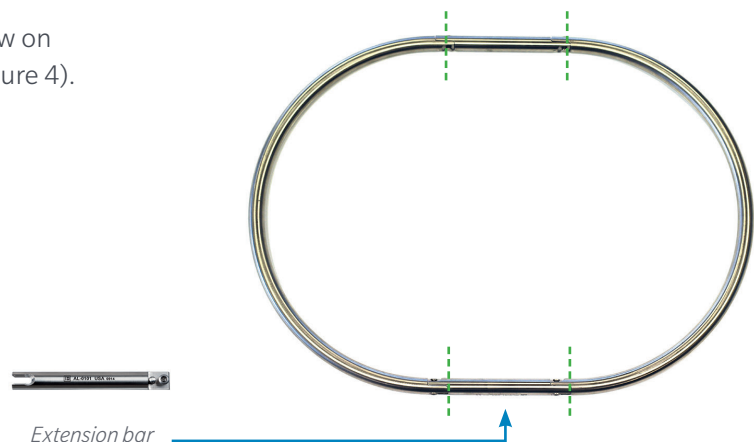

Figure 5
- Extension bars can be used to enlarge the operating space. Connect the extension bars on the ring segments and secure the assembly by tightening each screw on the retractor ring and on the bars with the hex driver tool (Figure 5).